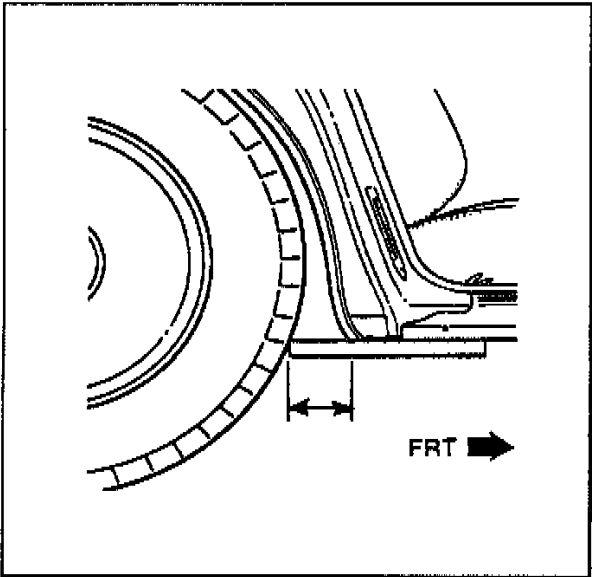

Figure 1
- 2. Using lower edge of sill plate as a guide for scale/ruler, measure distance from tire to wheel well opening on both sides of vehicle (Reference Figure 1).